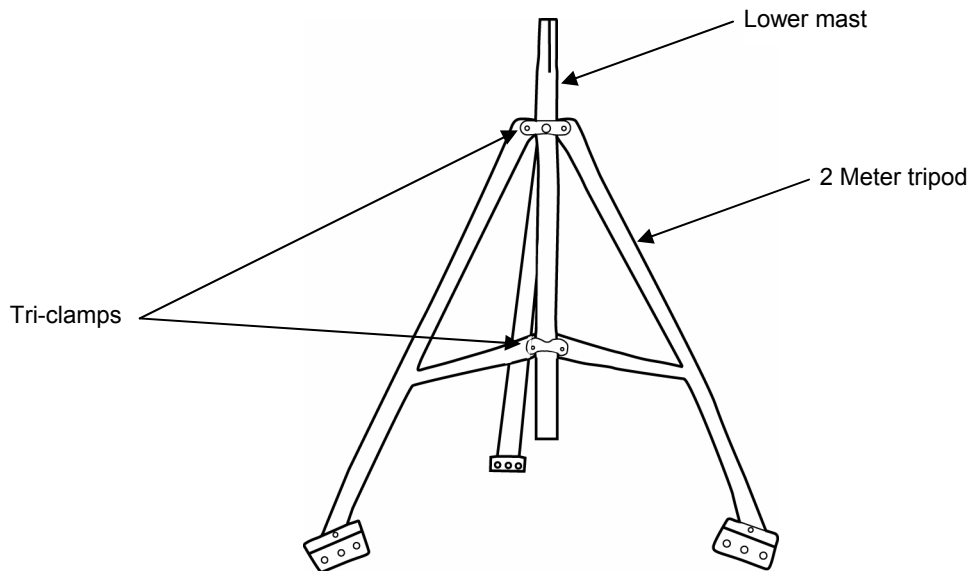

Figure 9: Two meter tripod and lower mast
6. Slide the lower mast from the top into the tri-clamps with the creased end of the mast facing up (see Figure 9). The creases on the lower mast should face north and south.